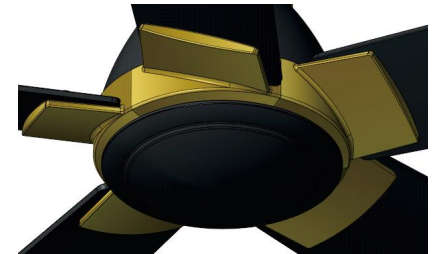

Fig 8.2
8.2 The decorative cover installed is shown in Fig 8.2.